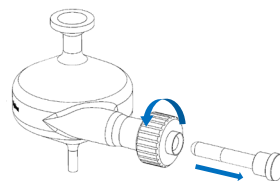

Figure 1. Sealing plug removal
- 1 Gently turn counterclockwise the torque-controlled nebulizer adaptor to remove the sealing plug (Fig. 1)